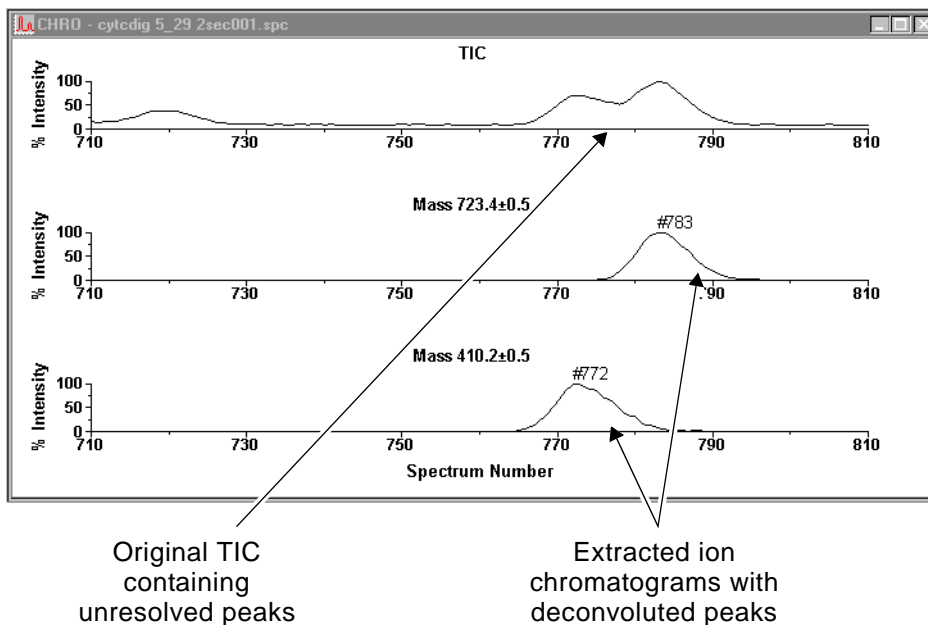

Figure 7-4 Deconvoluting Unresolved Chromatographic Peaks
Figure 7-4 illustrates the peaks deconvoluted from the original unresolved peaks.
1. Activate the first extracted ion chromatogram in Chromatogram window (see Figure 7-4 on page 7-6).